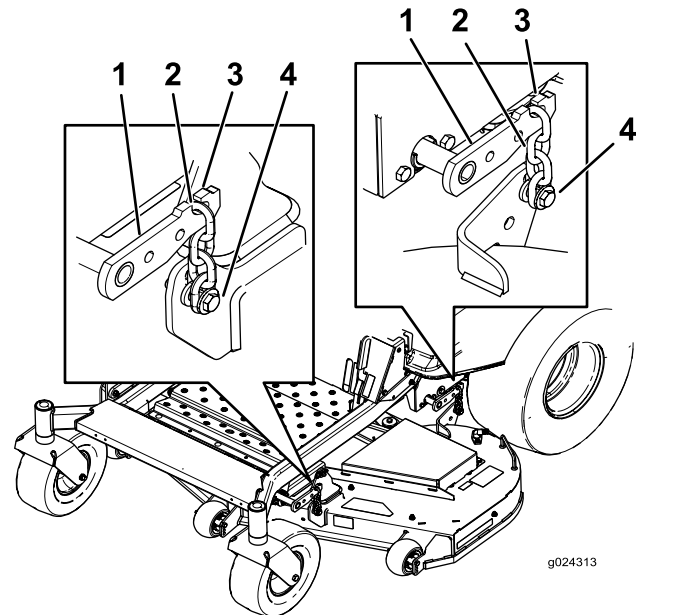

Figure 67
3. Remove the chains from the hooks on the deck-lift arms (Figure 67).
6. Lift the rear of the mower deck and attach the chains to the rear lift arms (Figure 67).
7. Attach the front chains to the front lift arms (Figure 67).